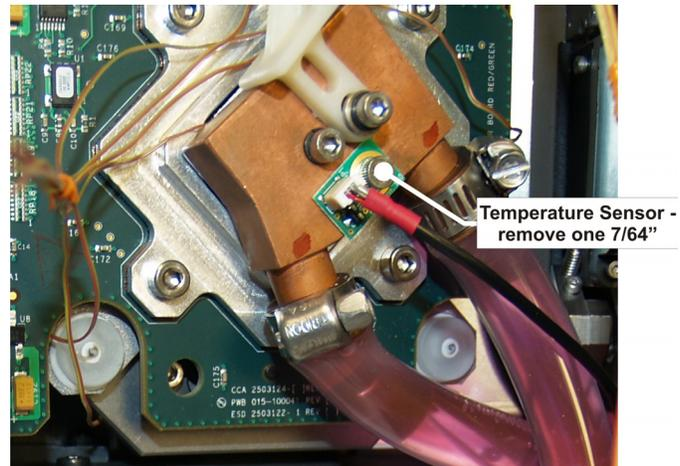

FIGURE 1-59 DMD THERMAL SENSOR
6. Remove one 7/64" screw securing the thermal sensor to be replaced. (Figure 1-59)